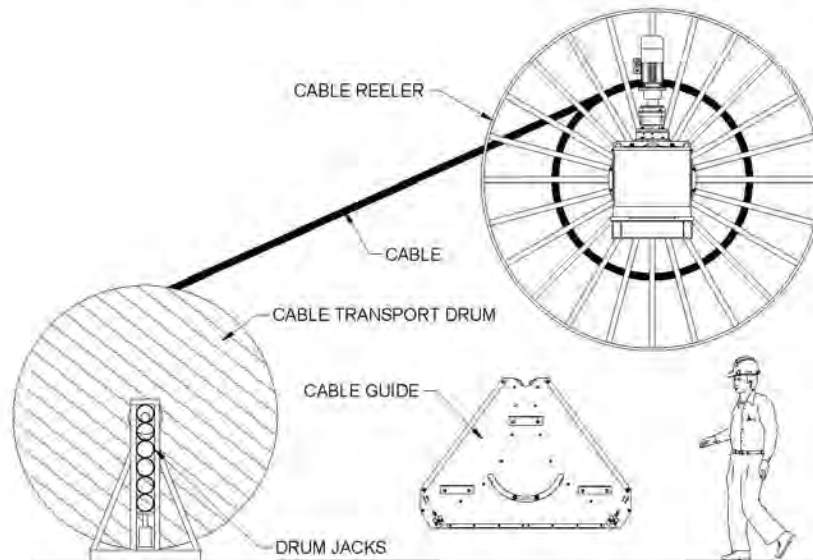

Figure 9 – Correct Method of Cable Installation
- 5.2.3 With the machine located as close to the feed point as possible, feed the cable from the top of the cable transport drums directly onto the top of the reeler drum (refer to Figure 9).
- 5.2.8 The cable can now be wound onto the reel, and it is essential that this be done with the cable under some tension to ensure uniform tight layering on the reel. It is most important that the cable be wound onto the reel drum without any induced twist. Figure 9 shows the correct method of cable transfer from the storage drum. The use of any other method will induce twist in the cable.